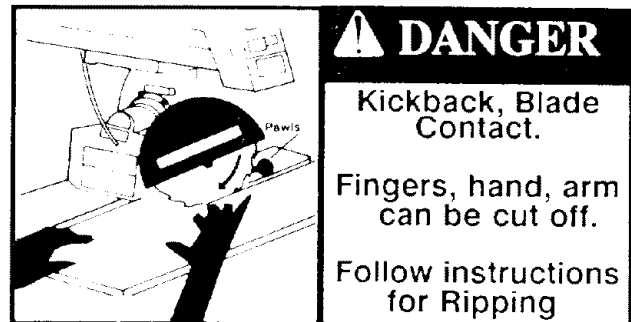

Fig. 101 - Kickback, Blade Contact Safety Sign
4. Go to the in-feed end of the saw blade. Fig. 101.